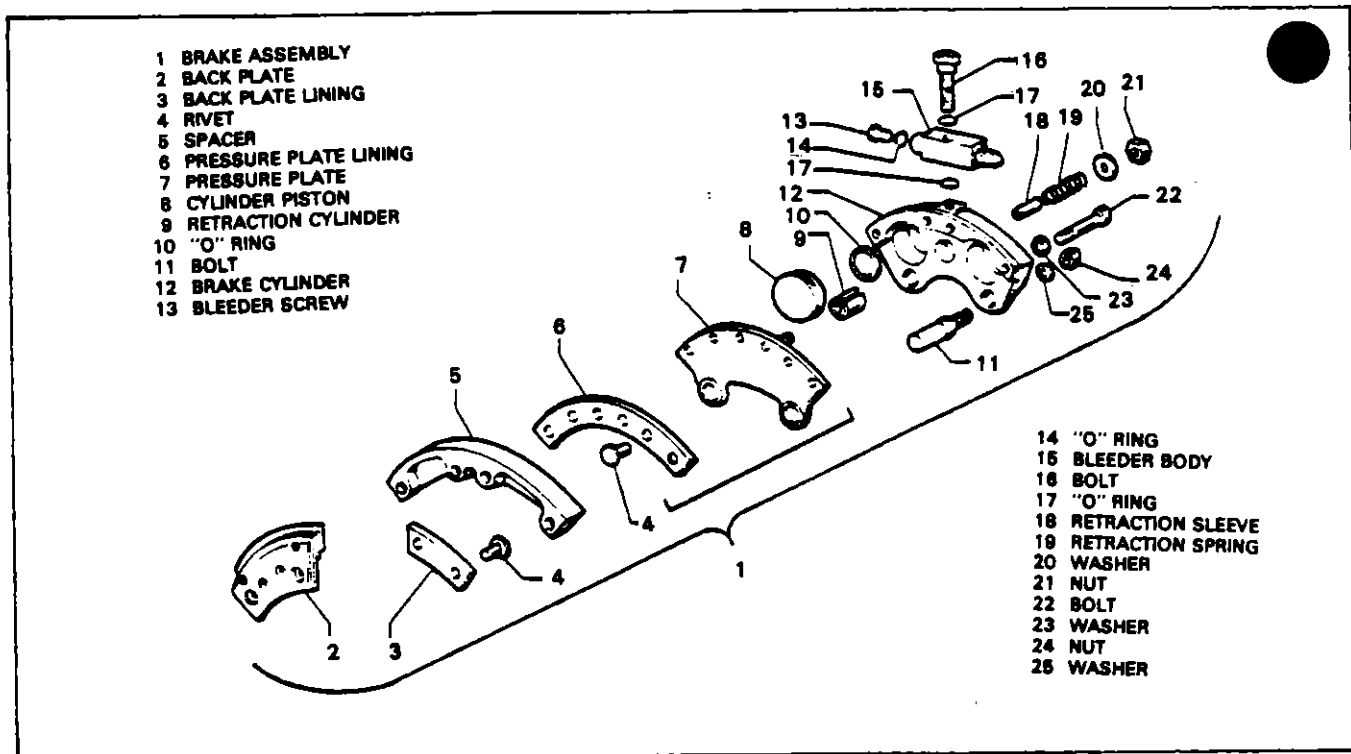

FIGURE 6-28. BRAKE ASSEMBLY (CLEVELAND) PA-24-180 and PA-24-250, Serial Nos. 24-1 to 24-3295
- b Install the tie bolts (7), instruction plate washers and nuts and torque the bolts to the specification given on the instruction plate.
- c Ascertain that the bearing cup (3) is properly installed.
- d Lubricate the wheel bearings (4) and install with the grease seals (6) and seal retainers (5)
- e Install the torque key (14), disc retainer (15) and safety
- g Install dust cover (11) and secure with snap ring (12)
**6-78. Removal And Disassembly Of Wheel Brake Assembly. (Cleveland) PA-24-180 and PA-24-250. Serial Nos. 24-1 to 24-3295 (Refer to Figure 6-28.)**
- a To remove the brake assembly, disconnect the brake line from the brake cylinder (12) and cap it to prevent contamination.
- b Remove the four cap bolts (22) that join the brake cylinder housing (12) and the lining back plate assemblies (2) Remove the back plates from between the brake disc and wheel
- d Remove the adjustment nut (21) and washer and the retraction spring (19) and sleeve (18) from the cylinder housing.
- e Slide the pressure plate (7) and lining off the anchor bolts (11) of the cylinder housing.
- f The pistons (8) may be removed by injecting low air pressure in the cylinder fluid inlet and forcing the pistons from the housing
- g The lining (6) can be removed from the pressure plate (7) and back plate (2) by removing the attaching rivets
6-80. Assembly And Installation Of Wheel Brake Assembly. (Cleveland) PA-24-180 and PA-24-250. Serial Nos. 24-1 to 24-3295 (Refer to Figure 6-28.)